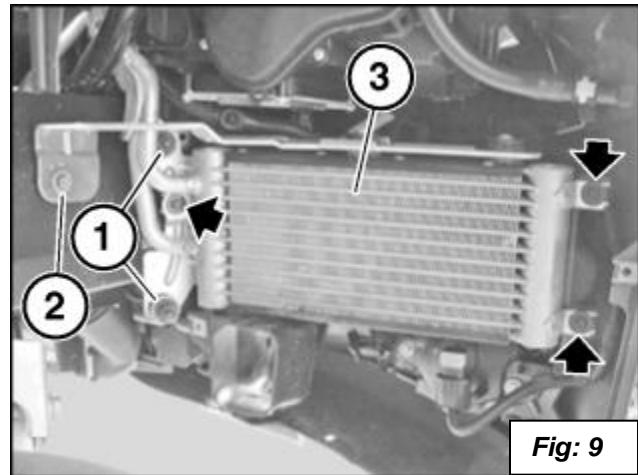

Fig: 9
13. Remove the three screws marked with arrows that hold the duct to the oil cooler (3). **See figure 9.**
14. Remove the bolt (1) and the nuts (2) and save for installing on the new oil cooler. You will also need the rubber mounts **and top bracket and will remove them in step 24.** **See figure 9.**